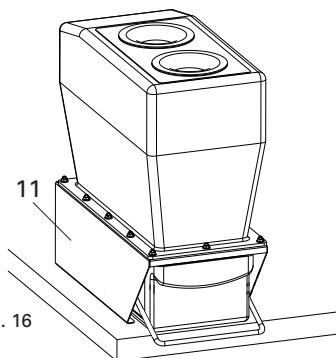

Fig. 16
- Place the filter unit preferably in a dirt area, e.g. Plaster Dept., close to the edge of a table (Fig.16)